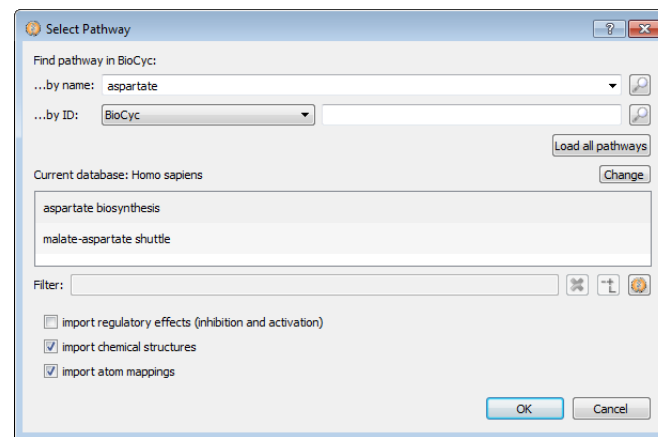

Figure 80 Select Pathway dialog box
- e Click the **Search**  button (Figure 80).